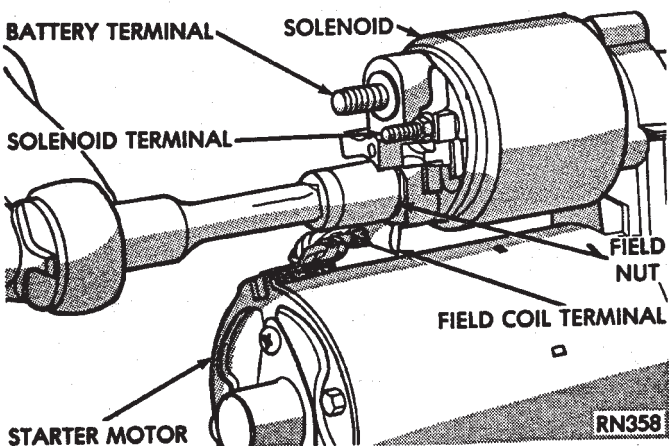

Fig. 14 Field Terminal Nut
- (1) Remove field terminal nut (Fig. 14).